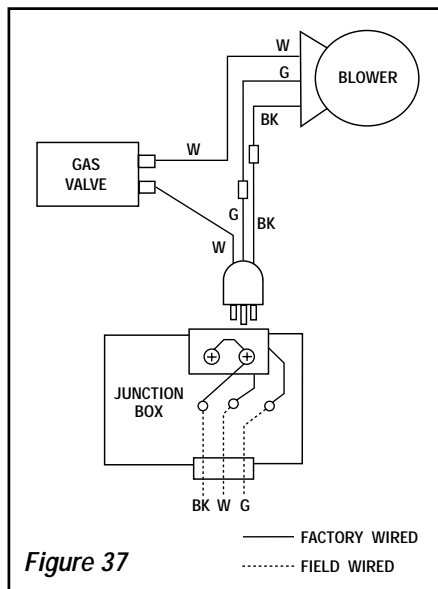

Figure 37
4. Connect the power supply wires to the duplex receptacle as shown in **Figure 37**.